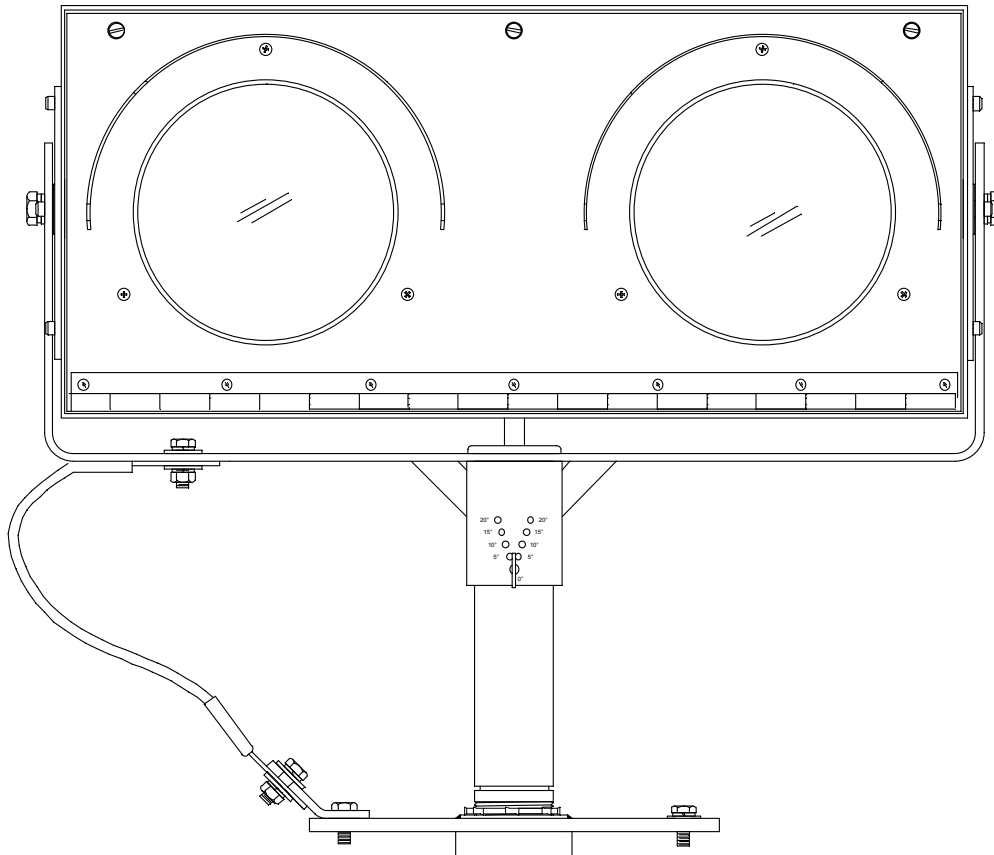

Figure 9-9 Runway Guard Light — Front View with Tether
11. Attach the tether cable to the bottom of the yoke on the side the farthest from the taxiway. See figures 9-9 and 9-10.